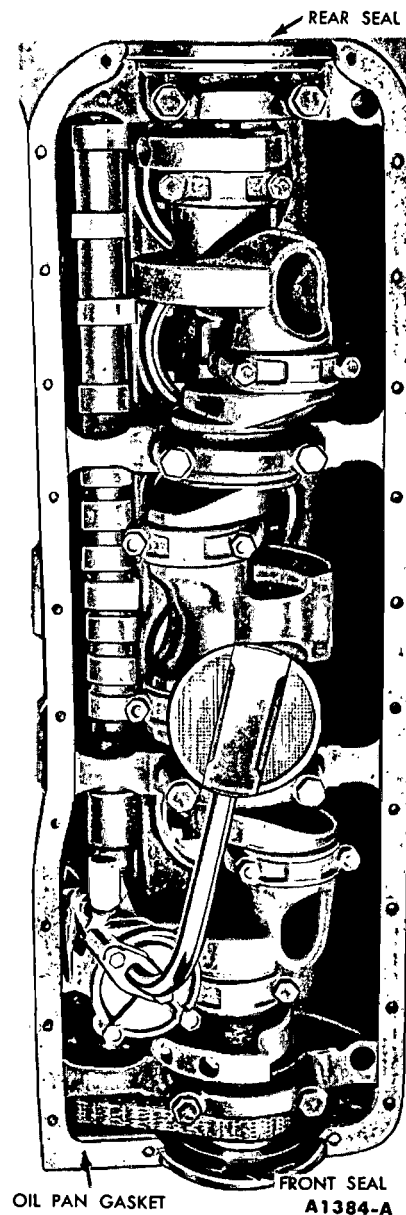

FIG. 54—170 Six Oil Pan Gaskets and Seals Installed
2. Clean the gasket surfaces of the block and oil pan. Be sure to clean the seal retainer grooves in the cylinder block and oil pan. The oil pan has a two-piece gasket. Coat the block surface and the oil pan gasket surface with oil-resistant sealer. Position the oil pan gaskets on the cylinder block (Fig. 54 or 55).
4. Position the oil pan rear seal on the rear main bearing cap (Fig. 54 or 55). **Be sure the tabs on the seal are over the oil pan gasket.**